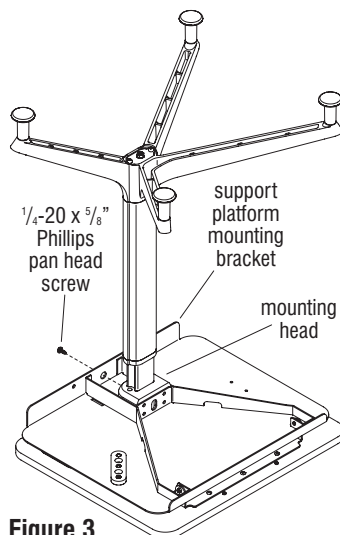

Figure 3
4. At the back, non-user side of the worktop support platform, align the back mounting hole on the mounting head with the mounting hole on the support platform mounting bracket and secure using one 1/4-20 x 5/8 inch Phillips pan head screw (Figure 3 & Detail B).